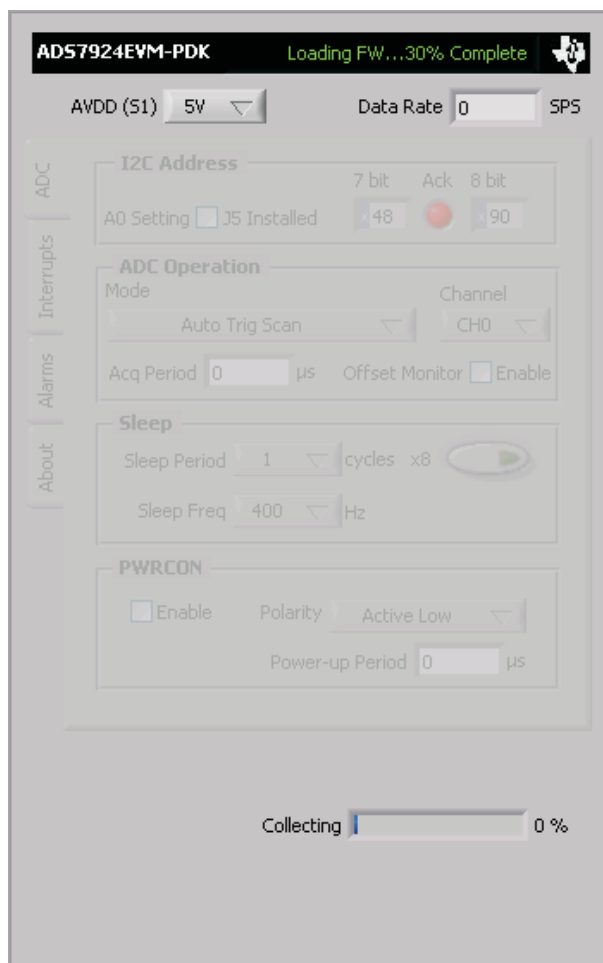

Figure 12. Firmware Download Progress Indicator
- Switch the BSL switch (SW4) on the MMB3 to the BSL position (to the left) as instructed, then press **OK**. The plug-in will download the firmware to the MMB3. This operation may take a couple of minutes, so the progress is updated in the message at the top of the ADS7924 plug-in window (as Figure 12 shows). The firmware is saved in flash memory on the MMB3, so this operation should need to only be performed once.